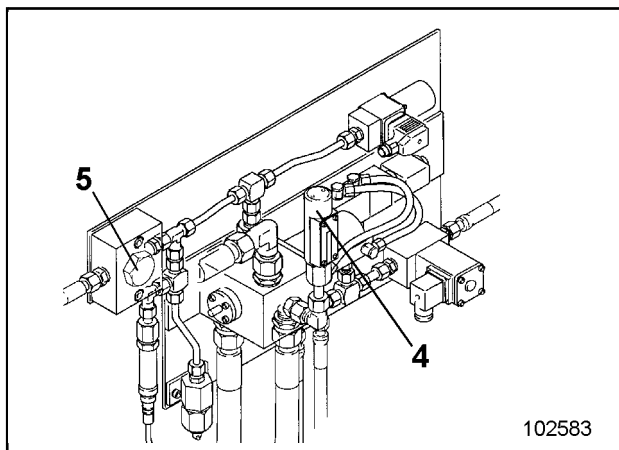

Fig. 7
- Loosen plug (5, Fig. 7).
- Re-insert sieve and fasten with nut (5).